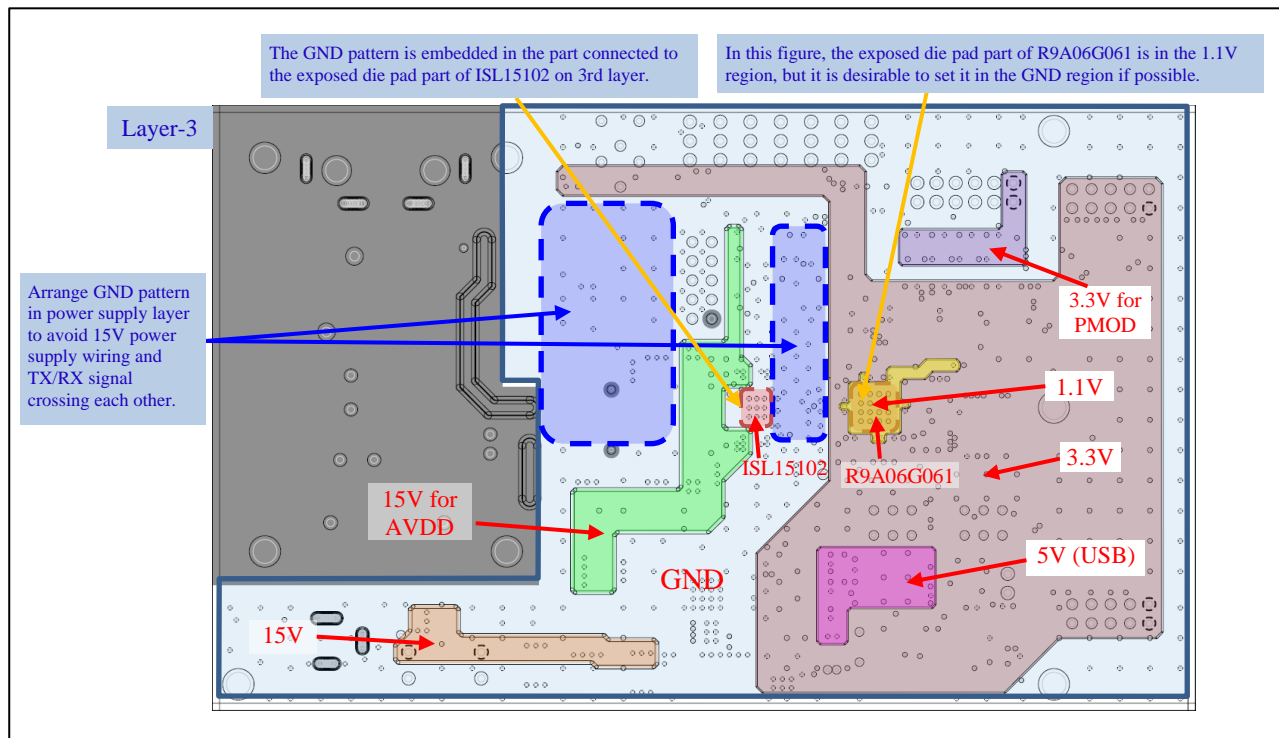

Figure 3-5 Example of 3rd Layer (Power Supply Layer) in Figure 3-1
- It is recommended to arrange 1.1V/3.3V/15V power regions used in the PLC board for the power supply layer, and arrange the GND pattern in the area where crossing with the power region should be avoided. Figure 3-5 show examples of the power supply layer.